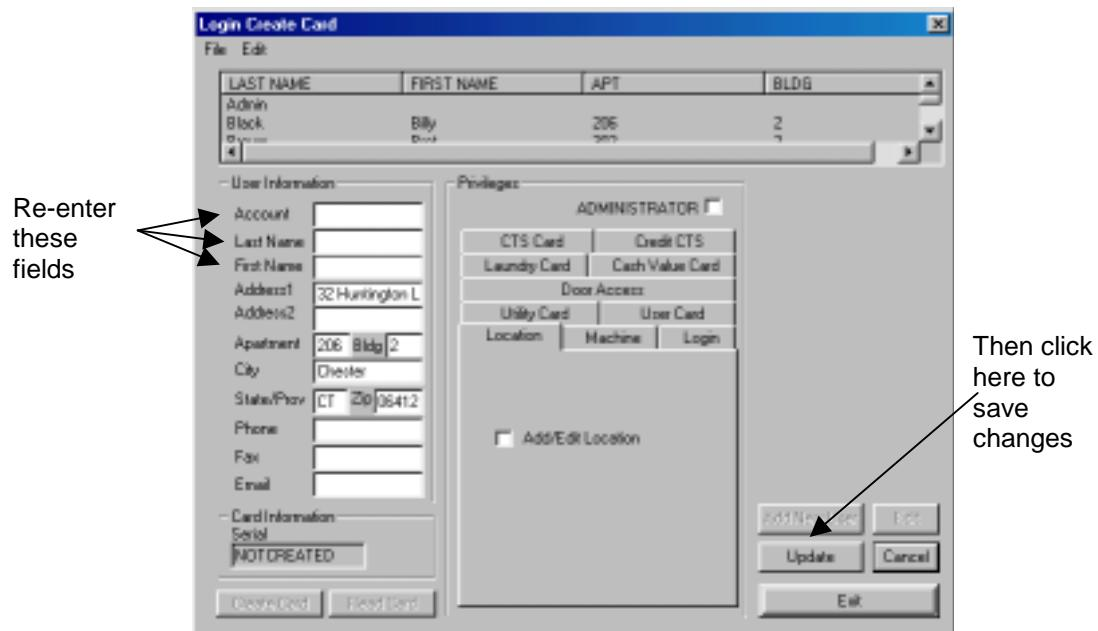

Figure 4.17 Entering a New User
4. Enter a new Account name/number (Figure 4.17).
5. Enter Last and First Name fields (Figure 4.17).
7. Click the Update button to save the new user to the system (Figure 4.17).